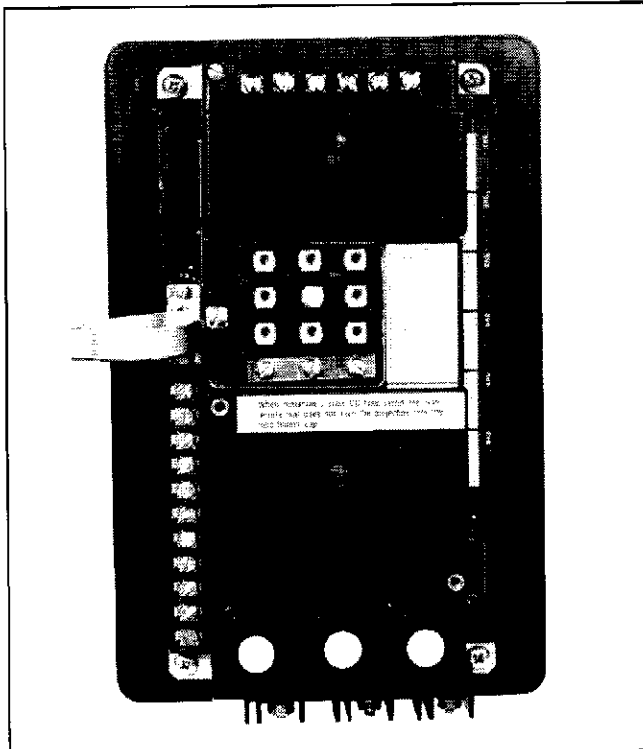

Fig. 1 Rear View of IQ Data Plus II Assembly
5. If the unit has its power module remotely located, carefully unplug the optional extension cable from connector P3 on the IQ DATA PLUS II's chassis, **not** the power module (See Figure 1).
11. Remove the four screws which hold the rear cover in place. These are located on each corner of the unit (See Figure 1).
30. Replace the four screws in the corners of the rear cover. Be sure not to over-tighten screws (See Figure 1).